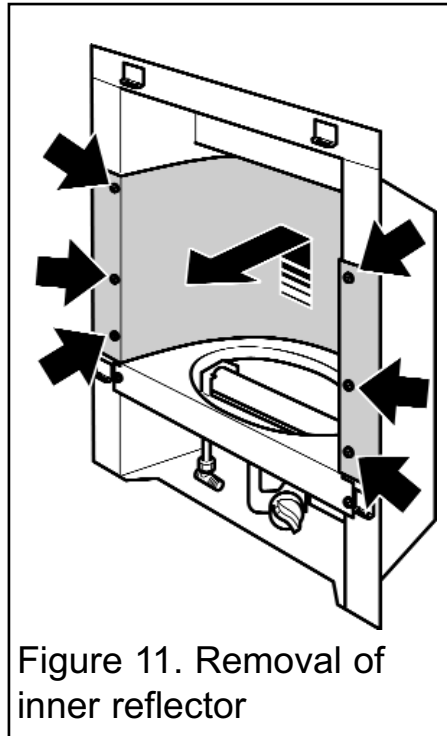

Figure 11. Removal of inner reflector
3. Remove the six screws from the side of the inner reflector (See figure 11).
4. Carefully lift the inner reflector and pull forward to remove. **Be careful not to scratch the top surface of the burner cover (See figure 11).** The reflector may 'spring' a little. For this reason it is important to hold the edges firmly when removing.